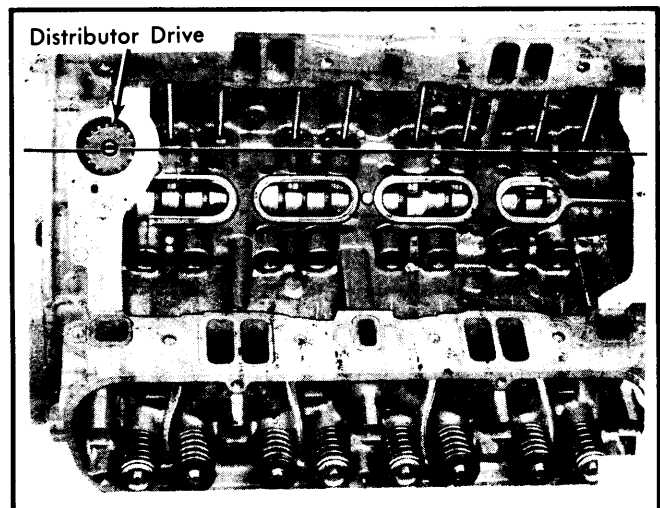

Fig. 17 Alignment of Distributor Gear with Engine for Distributor Timing
**Distributor Timing** — Before installing distributor-oil pump drive shaft, time engine as follows: Rotate crankshaft so number one cylinder is at top dead center on firing stroke. Straight line on vibration damper should be under "O" on timing indicator. Coat shaft and drive gear with engine oil. Install shaft so that when gear spirals into place, it will index with oil pump shaft, so slot in top of drive gear will point in a direction parallel to the centerline of the crankshaft. See Fig. 17.